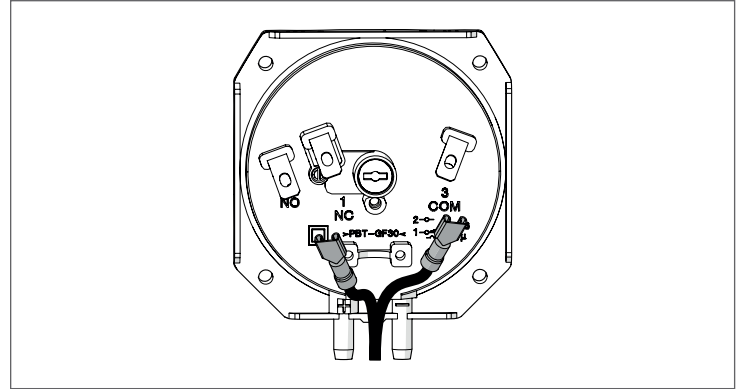
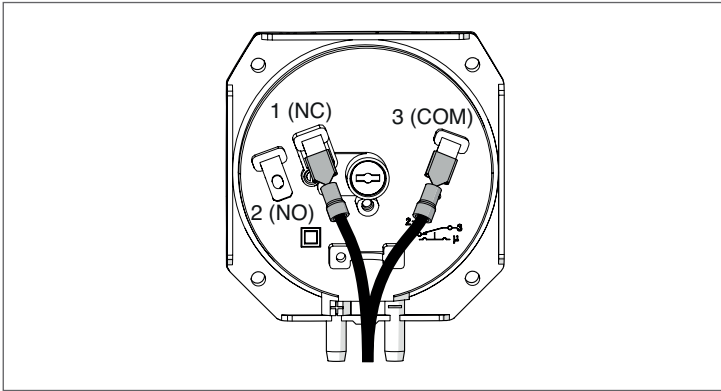

Fig. 59 Disconnect wires
Fig. 62 *Wired pressure switch*
- Test the pressure switch on the other side of the boiler (module 4 or 8); repeat the process from Fig. 59 through Fig. 62.